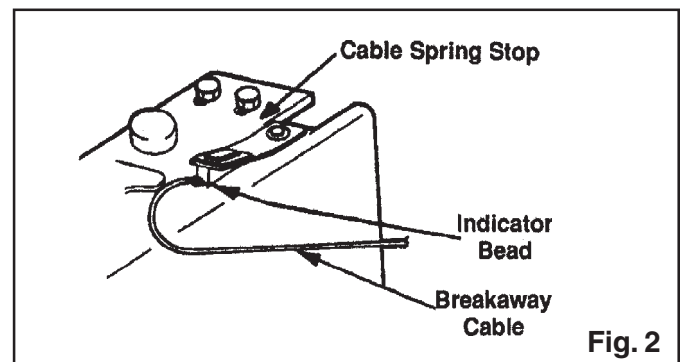

Fig. 2
8. Make sure the breakaway cable is in a released position with the indicator bead touching or resting against the cable spring stop. (Figure 2).